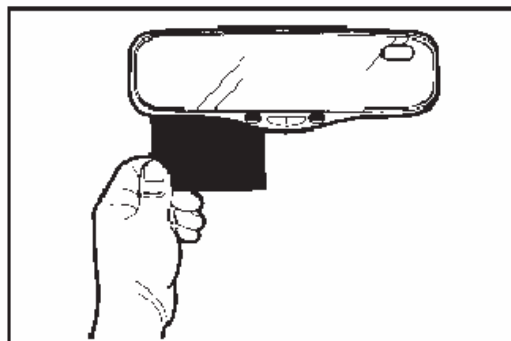

figure 8
- Cover the forward-looking photocell located below the wire harness connection on the back side of the mirror (a dark cloth or towel will work). (figure 8)